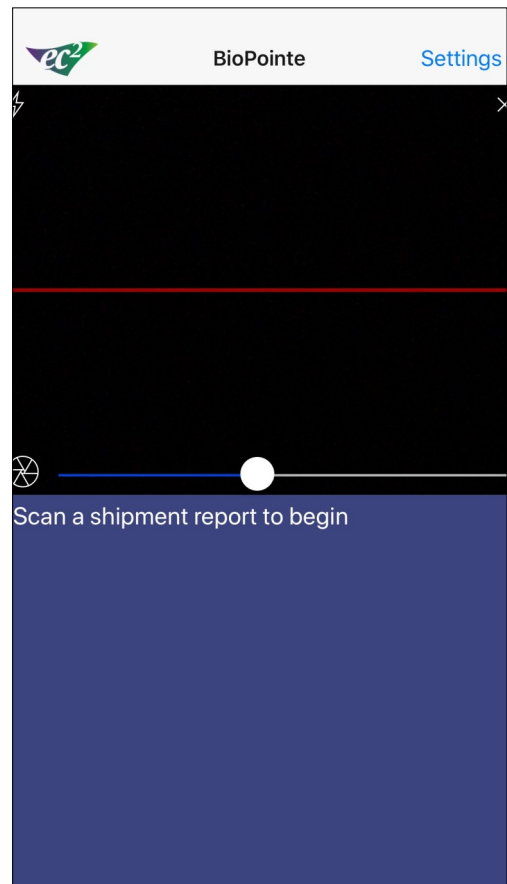

Fig 4
- c. Use the slider bar to adjust focus. This can be useful if you want to set a “6 inch” distance to always scan barcodes. Fig 4